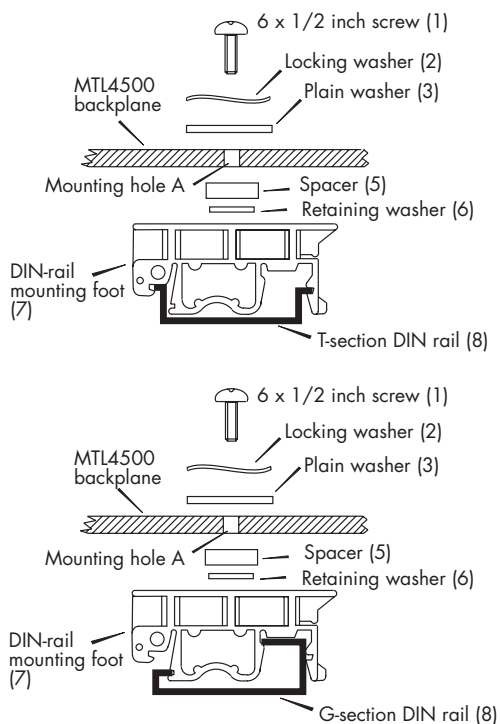

Figure 4.4: Mounting a backplane onto DIN rail
- c) Clip four mounting feet (7) to the DIN rail (8) at centres A (Figure 4.4).
- e) Place a locking washer (2) and a plain washer (3) onto each No. 6 x 1/2-inch screw (1) (Figure 4.4).
- g) Fit spacers (5), retaining them with the washers (6) (Figure 4.4).
- h) Locate the assemblies over the mounting feet and attach the screws (1) to the feet (Figure 4.4).